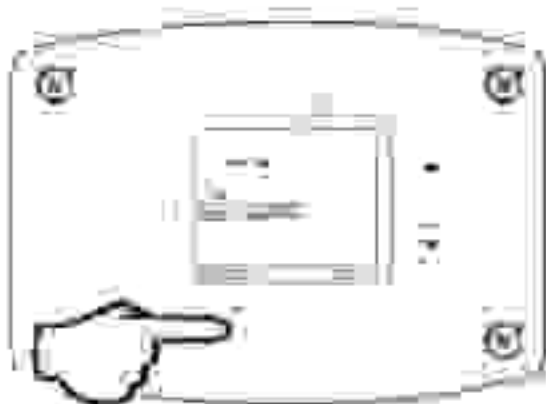

Fig. 45
8. Error Code History (Displays if there are present error codes or up to 10 previous error codes). Water Heater Display will show -- if there are no error codes (Fig. 45).